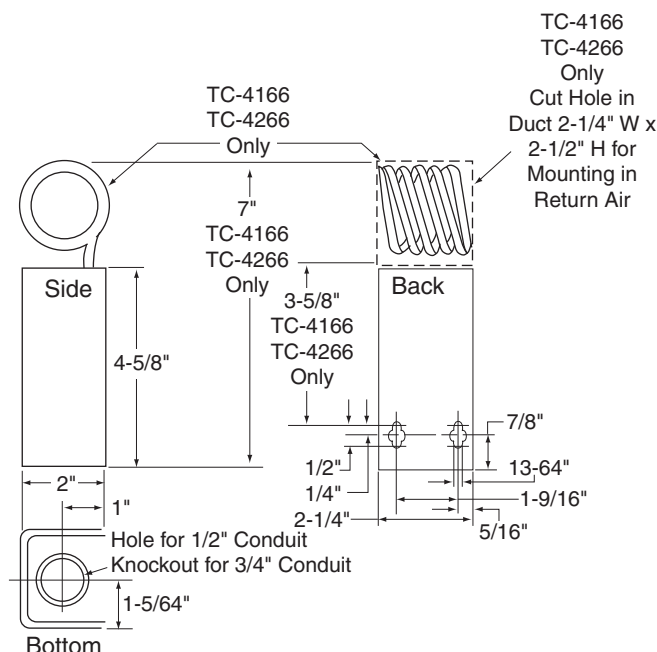

Figure-2 Case Dimensions.
Locate the device allowing proper distance to the bulb location. The case can be mounted in any position. Refer to Figure-2 for case dimensions.
1. Remove cover and provide two holes for #10 round head screws using the housing as the template or by using the dimensions shown in Figure-2.
1. Prepare duct for mounting by cutting hole and providing mounting screw holes per Figure-2.